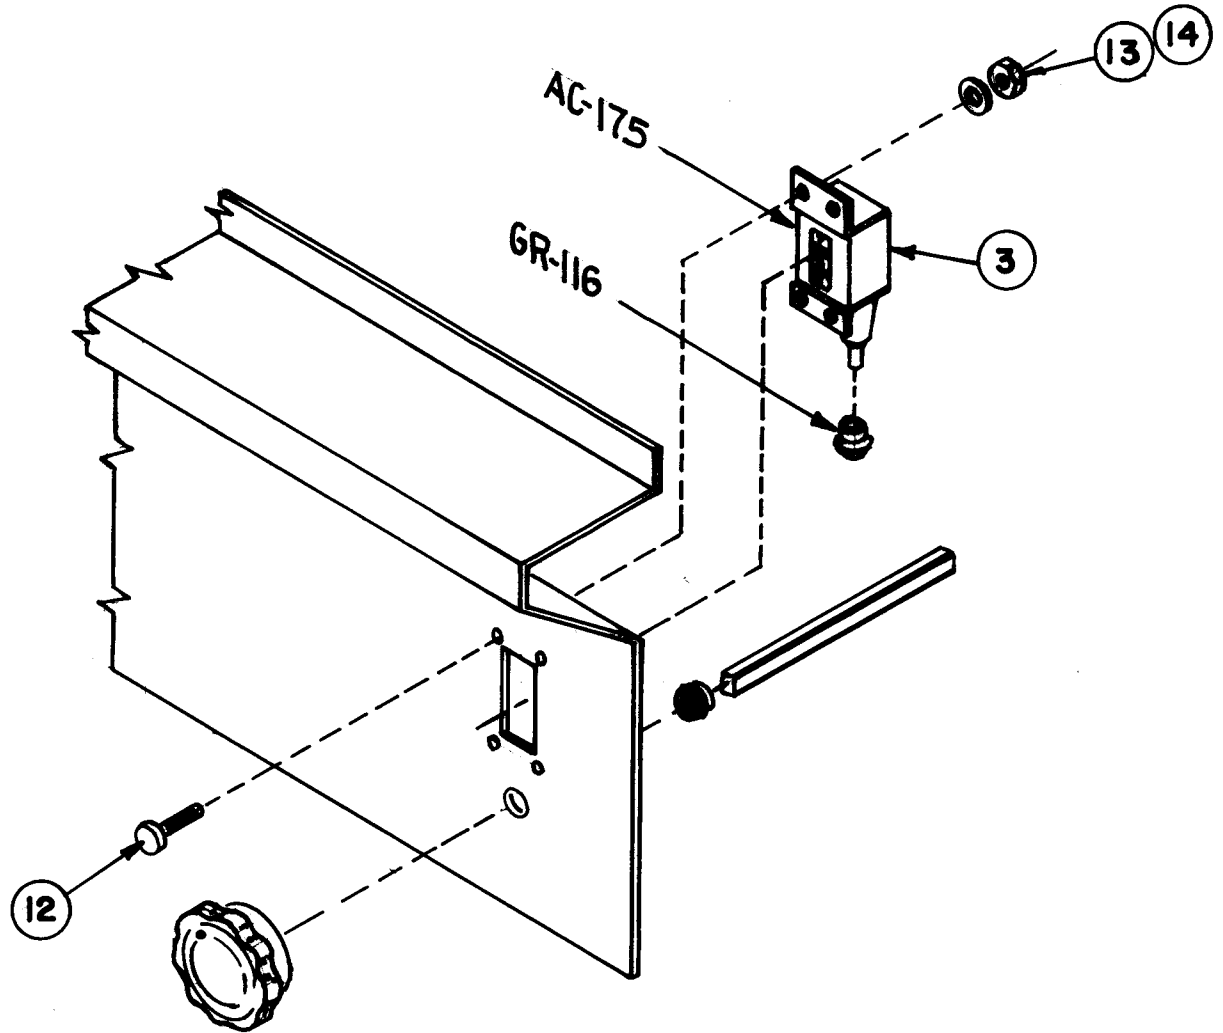

FIG. 3
8. Remove bandswitch counter; retain hardware and gear (refer to Fig. 3).
8. Obtain AC175 counter (IT.3) from shipping carton. Install GR-116 of old counter to new counter (refer to Fig. 3). Mount counter with hardware provided (IT.12, .13 and .14). Align counter for 24-28 MC position; this position must be held to conform with rotor position of bandswitch. Mesh gears secure with IT.19; allow for optimum operation.